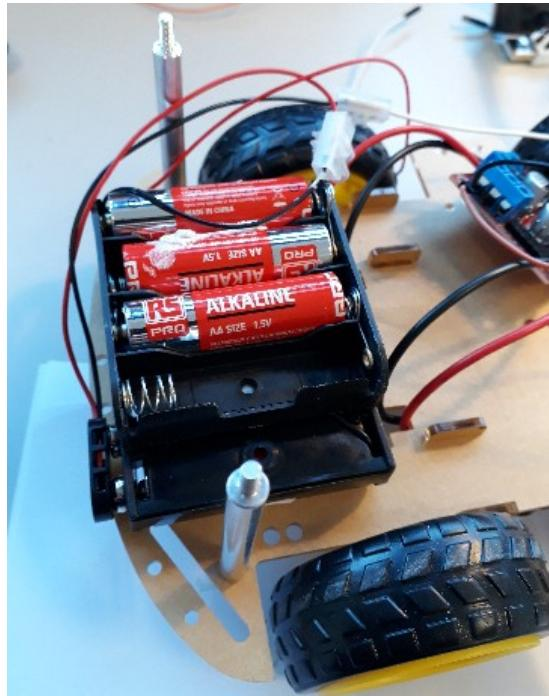

Figure 12: The battery pack attached to the buggy, with sticky pads. Note the battery pack sits over the driving wheels.
Once you have done this, use some more stick pads to attach the battery holder to the buggy, over the axles with the motors as shown in figure 12. Ensure the battery pack is placed on the end above the motors to put the weight of the buggy over the powered wheels.
Step 1: In this section, you will be wiring up each system of the buggy individually according to a series of wiring diagrams. Most of the wiring will be based on using an electronic breadboard as shown in figure 17. Breadboards allow you to quickly and easily build circuits by placing wires and components into the holes in the board. Each hole in the breadboard is also electrically connected to a series of other holes (as shown by the red lines in figure 12).